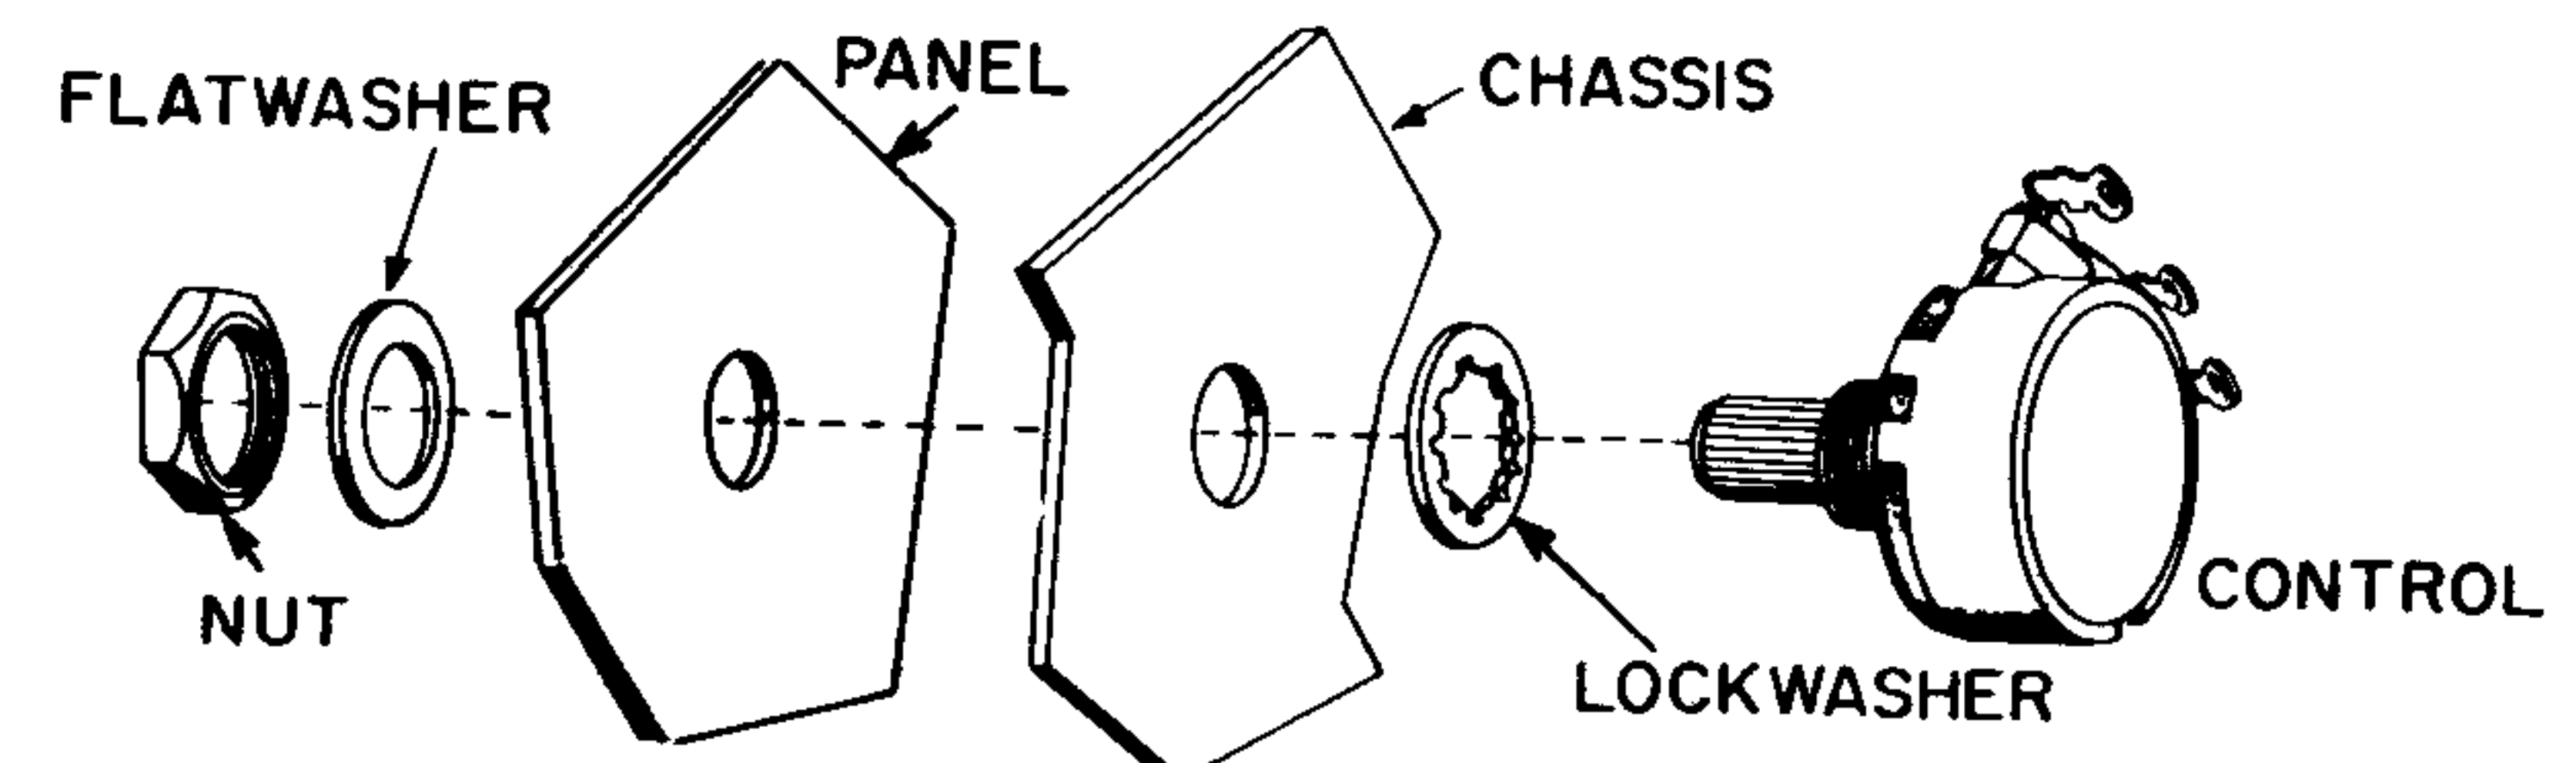

FIGURE 2. HOW TO MOUNT A CONTROL
- ☐ Mount S-1, the BAND SWITCH, as shown in Figure 2. Position the color dot as shown in Figure 3. Notice that first a lockwasher is slipped over the shaft of S-1. Then the shaft is pushed through the chassis and the panel. From outside the panel, a flat washer and nut are slipped on the shaft and tightened.
AS SHOWN IN FIGURE 2: